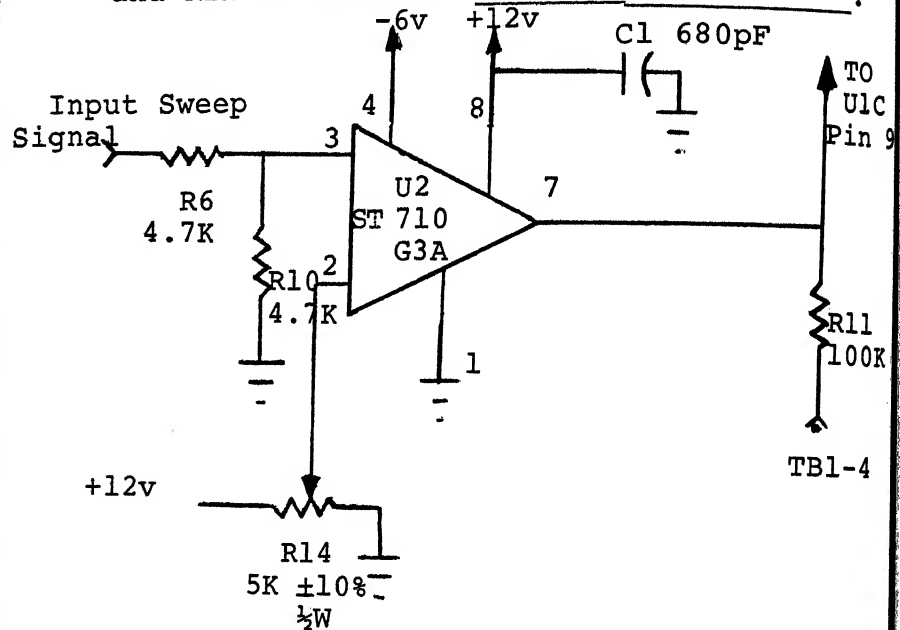

FIGURE 3
18. Refer to figure 3. In the sweep stop comparator, C1 performs \_\_\_\_\_